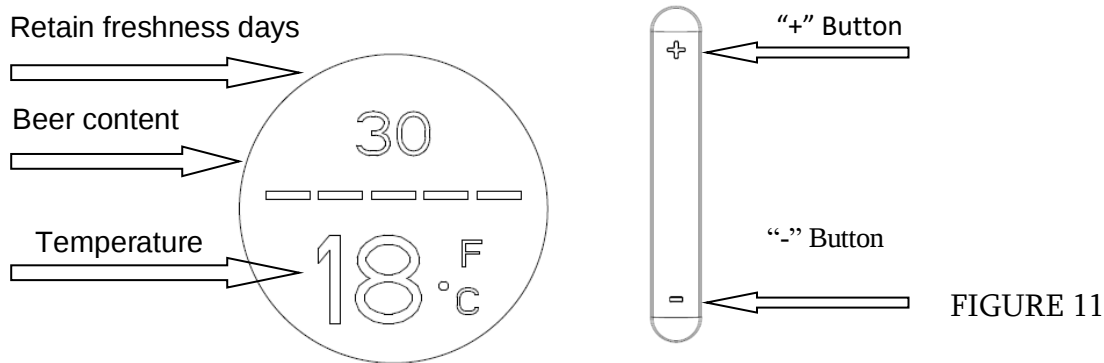

FIGURE 11
13. Display panel function (as shown in Figure 11)